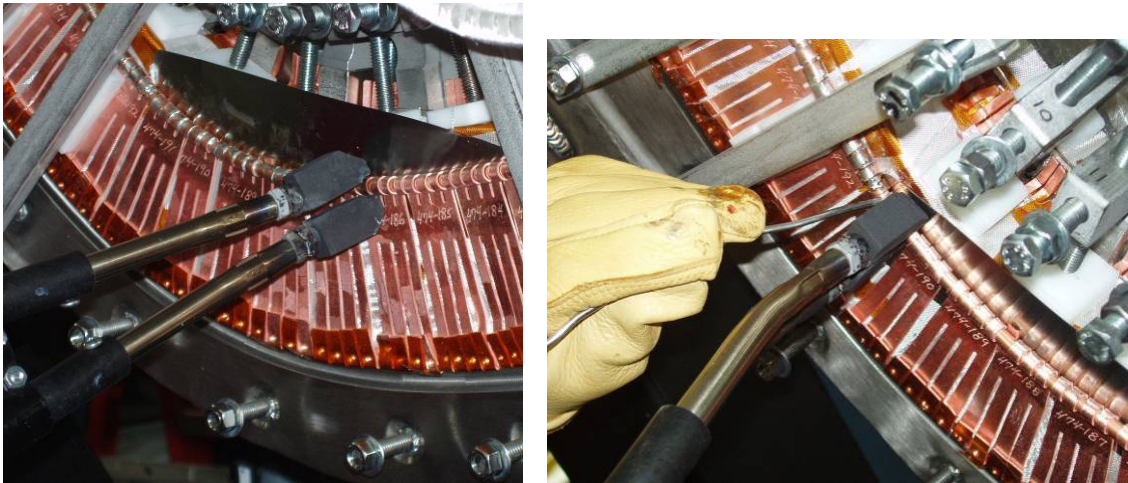

Figure 31- Soldering Cooling Tube (photos a & b)
6.29.4.4 Place the carbon tongs onto the formed chill plate fingers. [**Figure 31- Soldering Cooling Tube (photos a & b)**]
6.29.4.6 Place the center toggle switch to “LOW”, and using the carbon tongs heat the chill plate/cooling tube assembly. Once at temperature, feed the rosin core solder between the tube and copper fingers. [See **Figure 31- Soldering Cooling Tube (photos a & b)**]